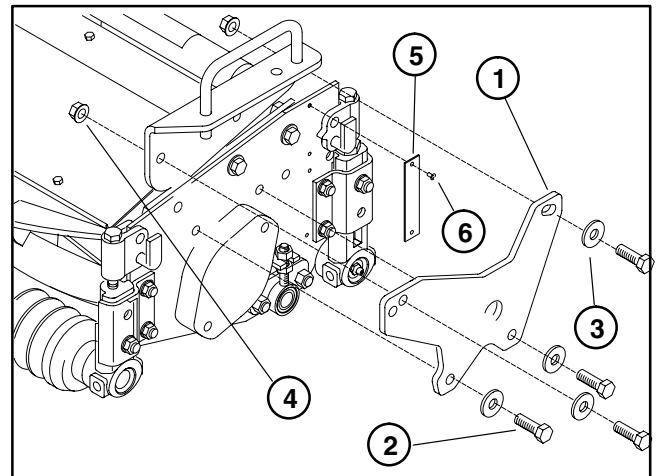

Figure 17
3. Align fixed side plate with holes on the cutting unit (Fig. 17).
4. Attach fixed side plate to the cutting unit with cap screws, washers, and flanged lock nuts (Fig. 17).
6. Fasten new height-of-cut plate to the cutting unit with pop rivets (Fig. 17).